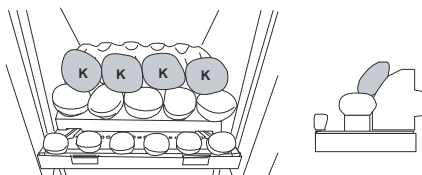
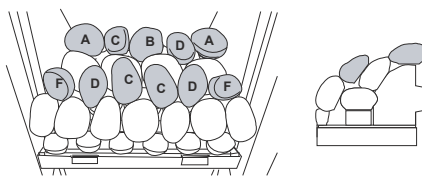

Figure 31
Figure 33
5. Proceed with laying the rest of the pebbles in accordance with **Figure 31** to **Figure 33**.